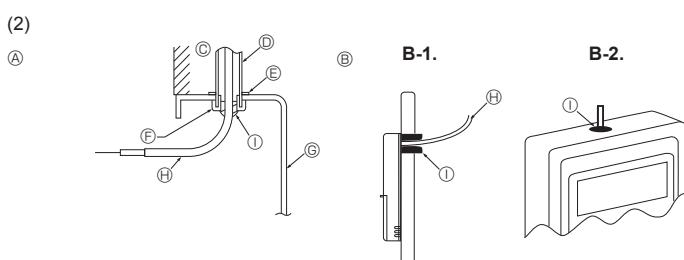

Fig. 6-3
(2) Seal the service entrance for the remote controller cord with putty to prevent possible invasion of dew drops, water, cockroaches or worms. (Fig.6-3)
① For installation in the switch box:
② For direct installation on the wall select one of the following: